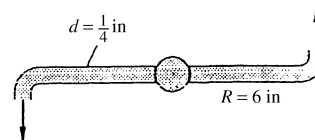

Fig. P3.110
**3.110** The horizontal lawn sprinkler in Fig. P3.110 has a water flow rate of 4.0 gal/min introduced vertically through the center. Estimate (a) the retarding torque required to keep the arms from rotating and (b) the rotation rate (r/min) if there is no retarding torque.